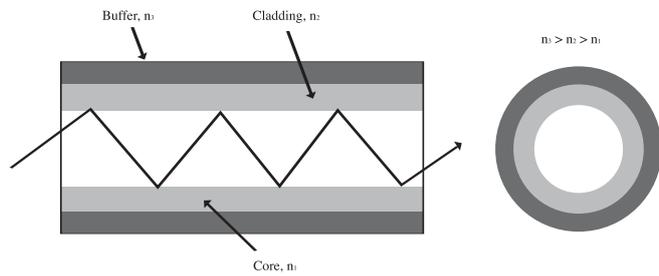

Figure 9. Fiber operate based on total internal reflections
5. Fibers operate based on total internal reflections, Figure 9. Light transmitting characteristics for fibers may change with bending curvature and positioning of coupling. When fiber input is selected for SP spectrometers it is a good practice to minimize the change in fiber bending curvature during operation. Fibers with precision positioning couplers, such as offered by SP, are highly recommended for repeatability and maximum light coupling.